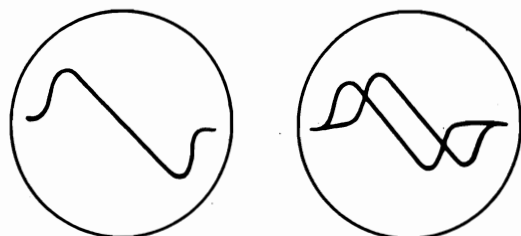

Fig. 6-S Curves
4. Adjust signal generator frequency until "S" curve (Fig. 6) is centered on the